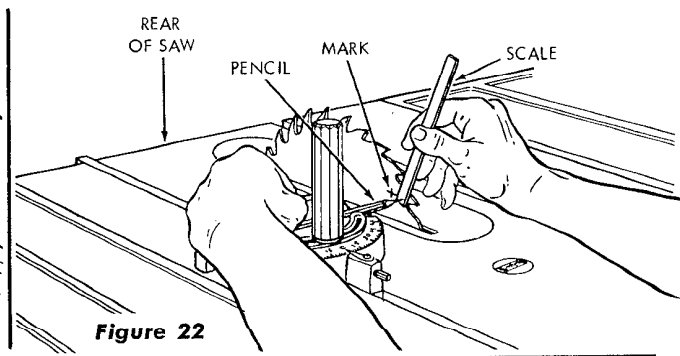

Figure 22
- h. With the right hand, remove the scale and rotate the saw blade until the marked tooth is just above the saw table at the front. (See figure 22.)
Insert the scale between the pencil point and blade, as shown in figure 22. If the saw is parallel to the table groove, the scale will just "slide" into the gap between the pencil point and blade. If the scale will not enter this gap, or is loose in the check shown in figure 22, an adjustment of the table trunnions is required. Proceed as follows: